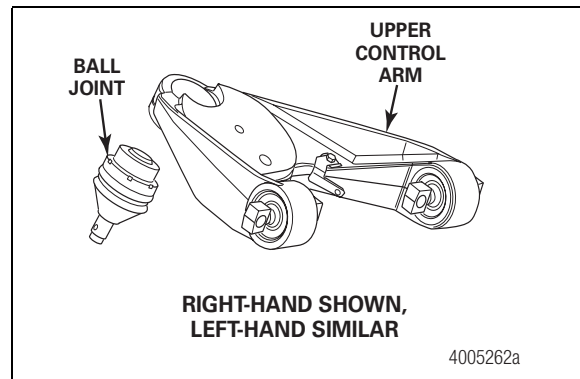

Figure 5.11
- Place the upper control arm into a suitable holding fixture with the ball joint stud facing UP. Figure 5.11.